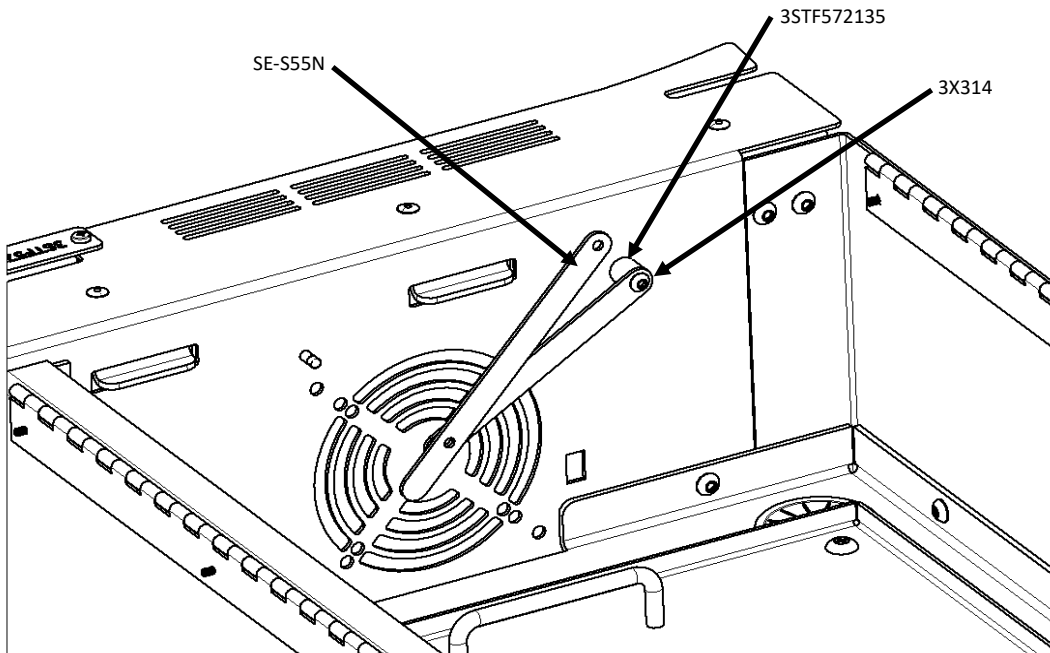

Figure 12
4. For the Hinge Supports in the forward compartment, the short leg still mounts to the wall, but the hinge needs to be pointed towards the rear of the vehicle instead of towards the front. This is shown in Figure 12.